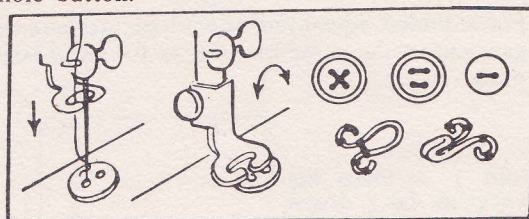

Fig. 30
1. Remove hinged presser foot and attach button sewing foot, See Fig. 30.
3. Turn drop feed knob (J) Page 2, to "Darn".
4. With the button sewing foot in a raised position place button between button sewing foot and fabric so that the holes of the button line up with the needle, as shown in Fig. 30. Turn hand wheel toward you and test to see if the needle enters center of each hole. If not, adjust the zigzag stitch width regulator knob by turning to right or left until the needle clears each hole.